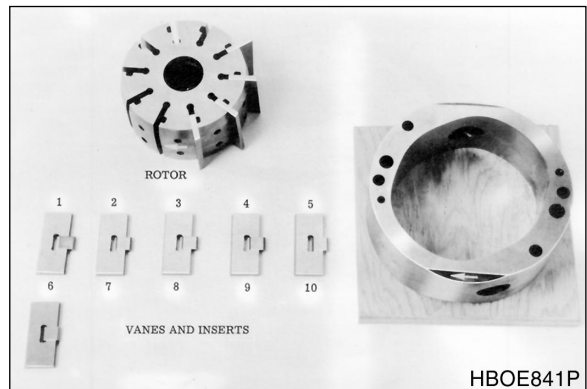

Figure 19
- I. Remove cam ring from rotor and vanes. Locate arrow stamped into rotor periphery. Remove vanes and inserts in order, starting at arrow. Keep them in order for inspection. (See Figure 19.)